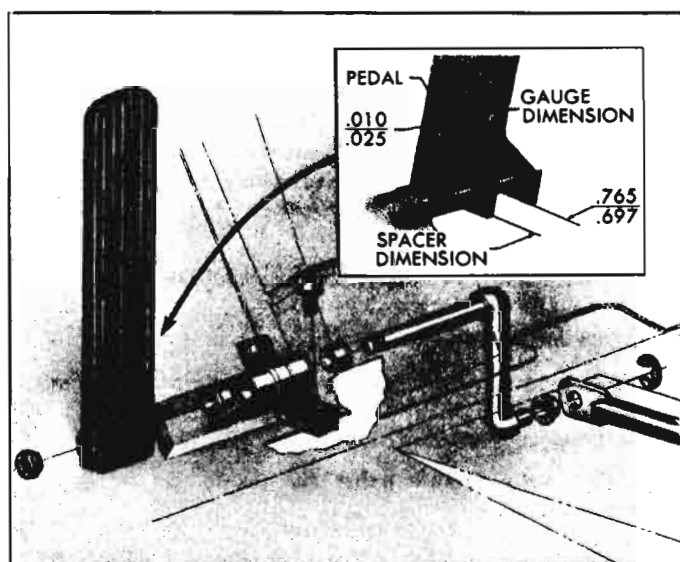

Fig. 9-5—Accelerator Pedal
Disassembly of the accelerator pedal is self explanatory. Refer to Figure 9-5. Assembly procedure is equally simple except that extra precautions are
1. Position pedal and rod as shown with serrations on rod held firmly against the pedal bracket. Rotate the rod until a dimension of $1\frac{1}{16}$ " is obtained between the bench and the underside of the pin (fig. 9-5).
Figure 9-5 indicates the size of the spacer needed between the sides of the pedal bracket and shows where to gauge the spacing between the bracket and the bushing. After assembly the pedal and rod assembly must operate freely in the support.